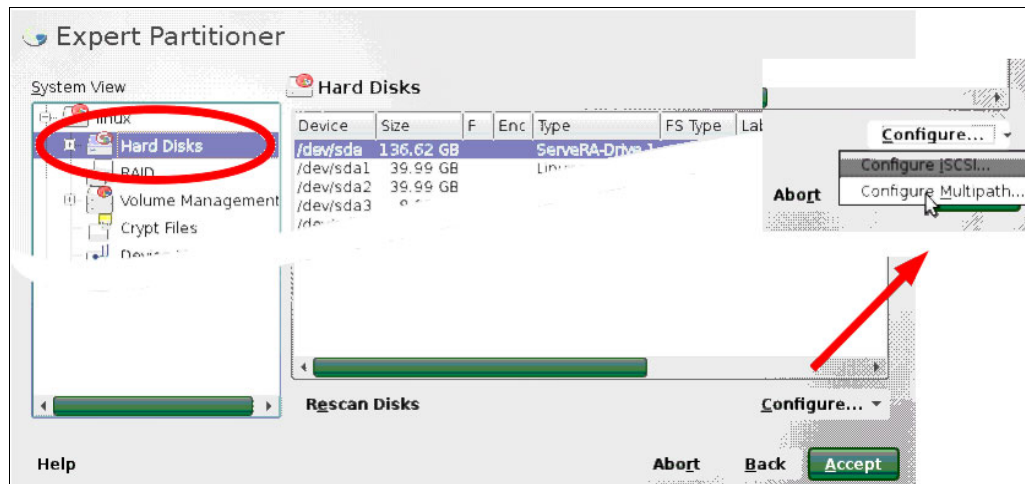

Figure 6-5 Enabling multipath in partitioner
3. In the Expert Partitioner panel (Figure 6-5), enable multipathing: